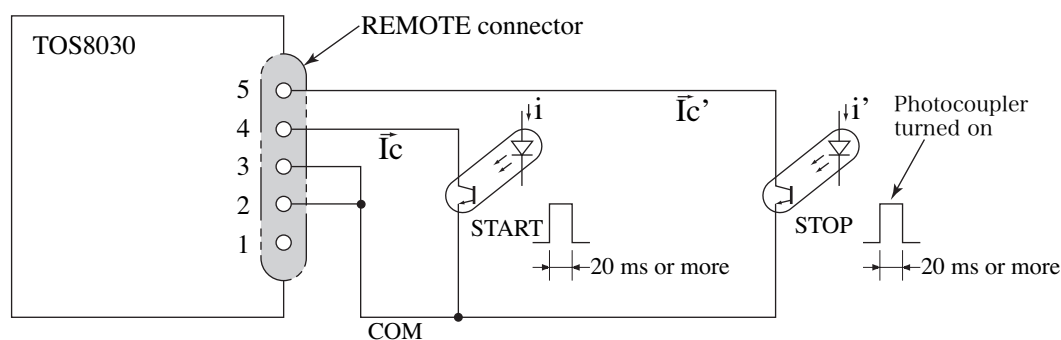

Fig. 6-4 Example: Circuit 3
- For elements connected to the tester, using photocouplers as shown in Fig. 6-4 or relays as shown in Fig. 6-3 appears to be advantageous, in that they are capable of reducing the incidence of noise-induced system malfunctions.